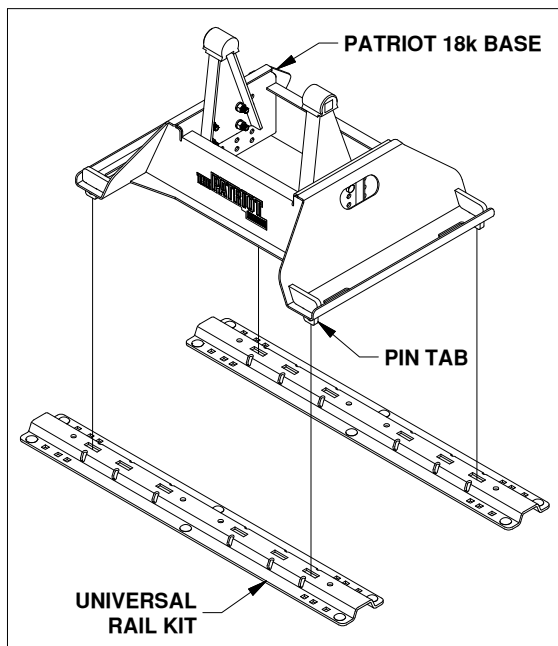

FIGURE B1: Rail attachment.
1. The Patriot 18k base will mount to a rail kit in the truck bed. Remove any debris and/or obstructions from the bed. Place the Patriot 18k base over the rail attachment points and carefully lower it until the pin tabs pass through the attachment points and the base rests flat against the top of the rails, see figure B1.